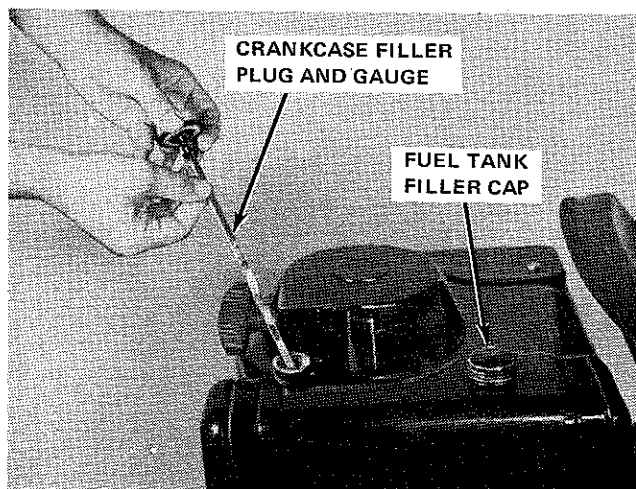

Figure 3-4. Oil and Fuel Fill Locations
D. Remove the engine crankcase filler cap and gauge (Figure 3-4). Fill the crankcase with 10W-30 grade SD/CC, MS, MS/DG, or MS/DM oil until level reads full on gauge. Crankcase capacity is 2-1/4 pints. Check oil level every time fuel is added. Use caution not to overfill engine crankcase with oil.